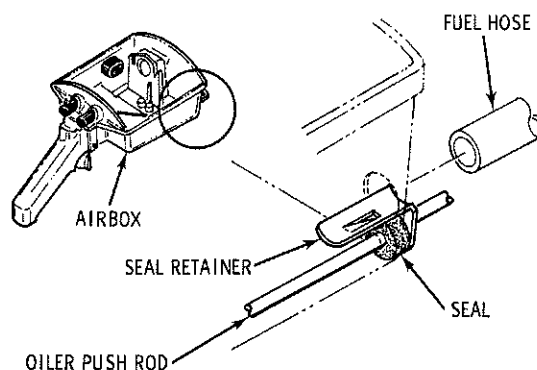

Figure VIII-20
2. Place the new oiler push rod seal and the retainer on the push rod, with the detent end of the retainer pointing toward the airbox. (Figure VIII-20)